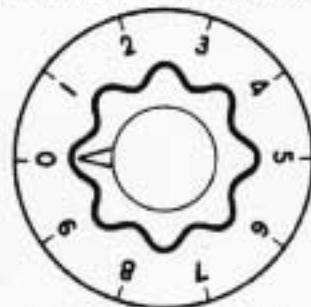

Fig. 5. Indicator dial
5. Without turning Wrench Handle or Adjustment Knob, rotate Indicator Dial until Zero mark is directly under arrow pointer (Fig. 5).